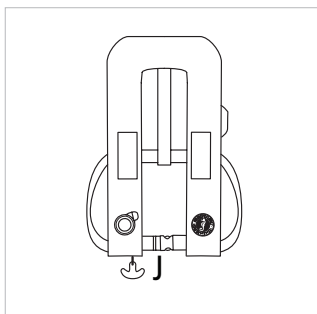

FIGURE 31 CORRECT
- Ensure the pull-tab (J) is on the outside of the folded PFD. Fig. 31 depicts a correctly folded PFD.